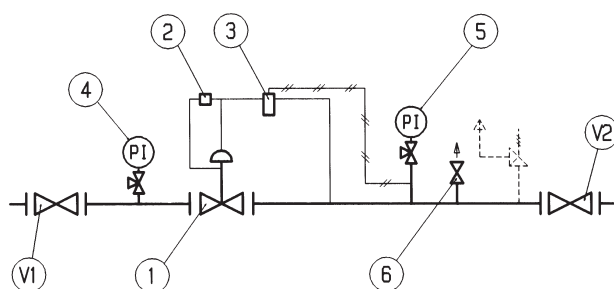

Fig. 21
5.3 COMMISSIONING THE REGULATOR (FIG. 21)